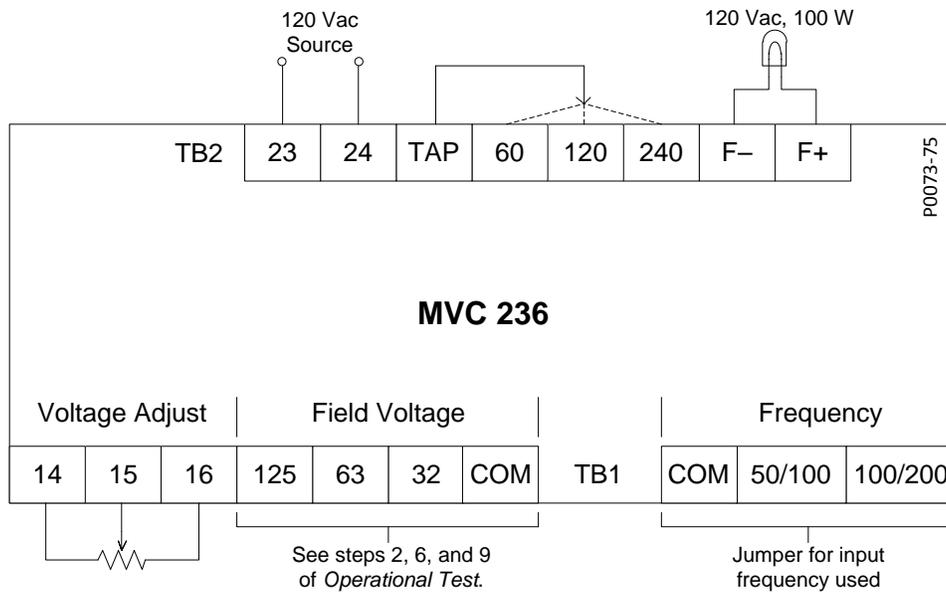

Figure 7. MVC 236 Operational Test Connections
MVC 236 operation can be verified by using the following procedure. Operational test connections are shown in Figure 7. Note that an automatic voltage regulator is not required for this test.
1. Connect the MVC 236 according to the connections shown in Figure 7.